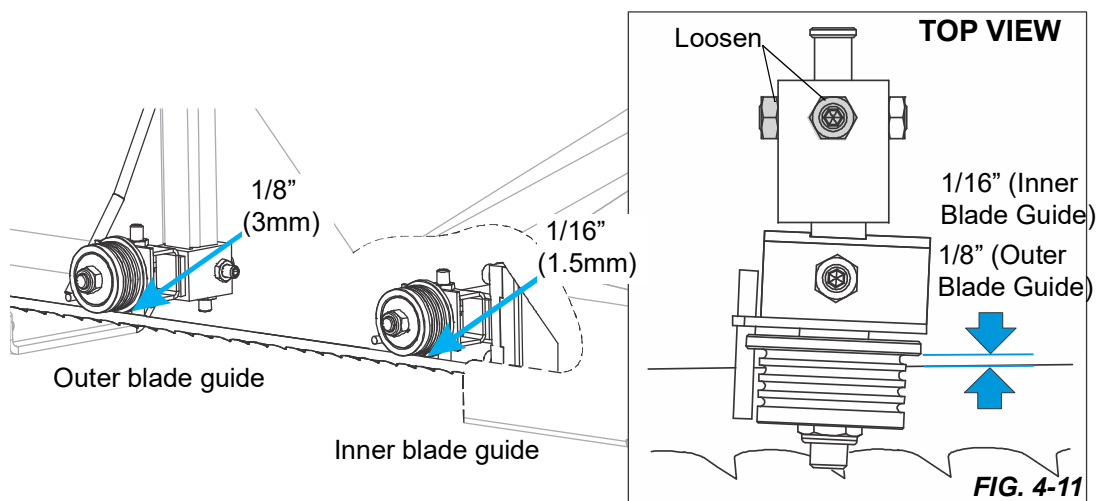

FIG. 4-11
1. Ensure that the distance between the flange on the **outer blade guide roller** to the back edge of the blade measures to 1/8" (3.0 mm). See Fig. 4-11.
flange on the **inner blade guide roller** to the back edge of the blade measures to 1/16" (1.5 mm). See Figure 4-11.